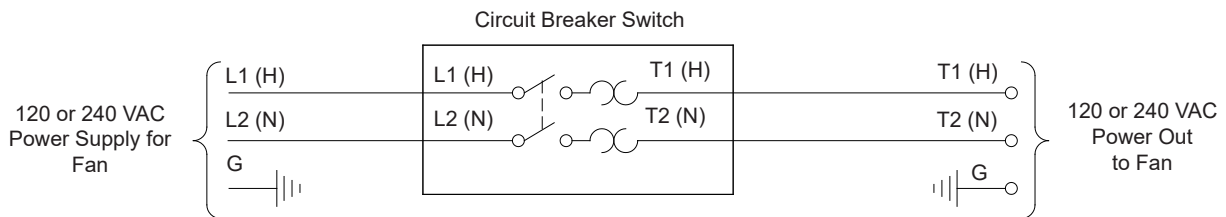

Figure 32A
**Single Phase Fans:** motor overload protection should be provided for each fan. A Circuit Breaker Switch or slow blow motor type fuses must be used, See Figure 32A. See form QM1400 for proper size.